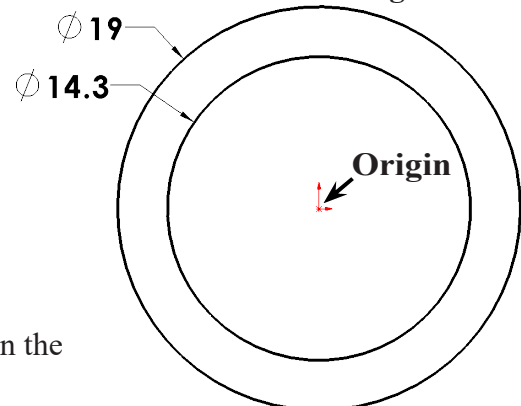

Fig. 2
Step 3. Click **Circle**  (S) on the Sketch toolbar.
Step 4. Sketch **two circles at Origin** , **Fig. 2**.
Step 5. Click **Smart Dimension**  (S) on the Sketch toolbar.
Step 6. Dimension **diameters 19 and 14.3**, **Fig. 2**.